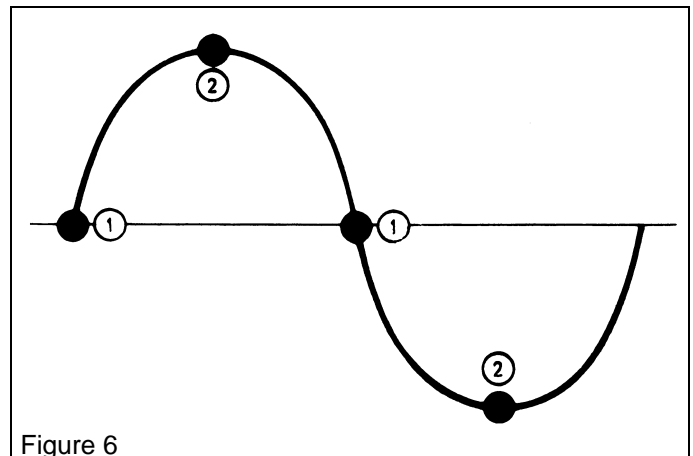

Figure 6
The use of thermo-regulators using SCR components is recommended. These systems, in fact, turn the heaters ON only when the sinusoidal curve crosses the zero ("Zero crossing" activation) thus reducing considerable the thermal shocks on the heater resistive winding (See Figure 6 – point ①)
ON/OFF regulators can turn the heaters ON in any point of the sinusoidal curve (see Figure 6 – point ②) causing very high thermal shocks on the heater winding and a consequent reduction of the heater lifetime.